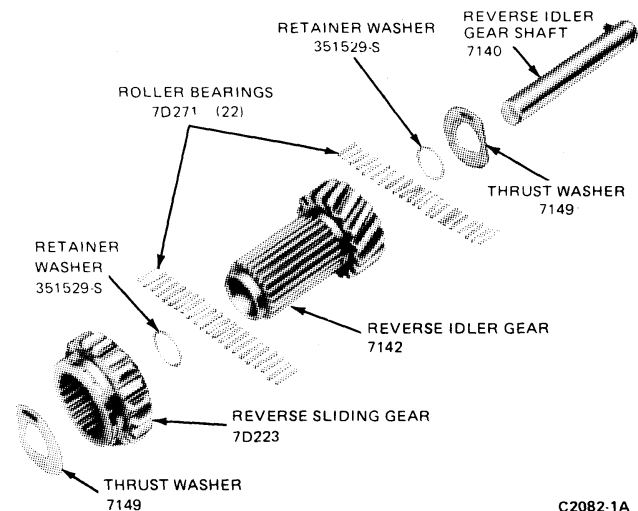

FIG. 21 Reverse Idler Gear Disassembled
1. Coat the countershaft gear thrust surfaces in the case with a thin film of lubricant and position a thrust washer (Fig. 21) at each end of the case.
1. Slip the reverse idler sliding gear off the reverse idler gear (Fig. 21).
3. Install the reverse idler sliding gear on the reverse idler gear making sure that the shift fork groove is toward the front (Fig. 21).